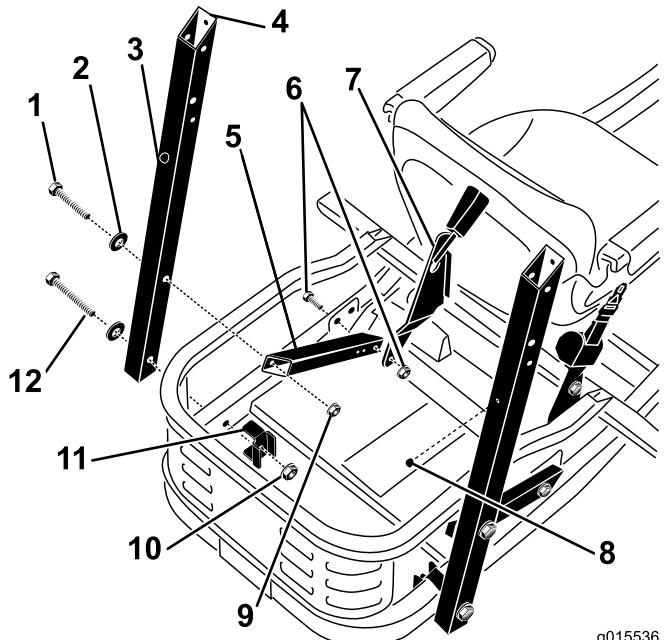
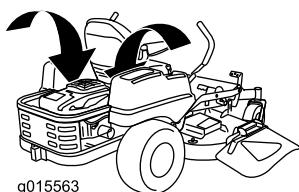
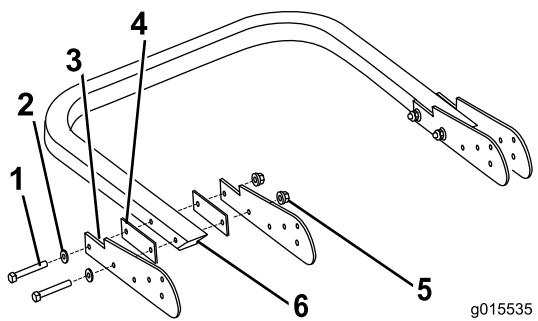

Figure 4
Figure 3
Figure 5
1. Locate the factory installed brace attached to the frame between the engine and the rear wheel (see Figure 3 and Figure 4).
2. Loosen the locknut that secures the brace to the frame. Stop when the brace swings freely (Figure 4).
3. Attach the rollbar support to the frame and the brace to the rollbar support as shown in Figure 4. Leave the bolts loose enough that the parts are free to shift around.
Assemble the pivot brackets to the rollbar as shown in Figure 5. Leave the bolts loose enough that the parts are free to shift around.
1. Tighten the fasteners in the order specified in the following table. Figure 4 and Figure 5 will help identify the parts.
2. If necessary, install both small rubber bumpers. Press the small flange on the back of each into the holes on the back of the rollbar supports (Figure 4).